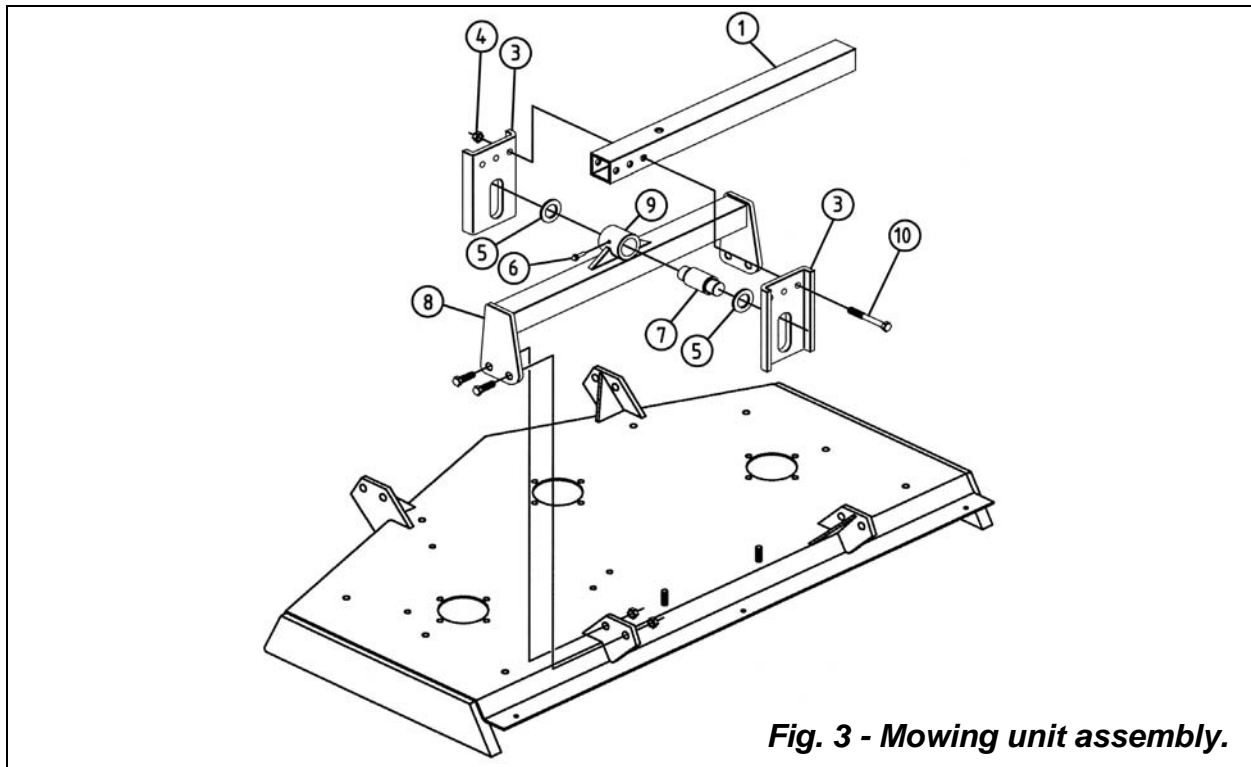

Fig. 3 - Mowing unit assembly.
1. Position the decks complete with hitches (**see #8, fig. 3**) near the telescopic wing arms (**see #1, fig. 3**) which are bolted into the lift arms.
2. Insert the attaching pin (**see #7, fig. 3**) into the tube welded to the hitch (**see #9, fig. 3**). Place the shim washers (**see #5, fig. 3**) on either end of the attaching pin.
3. Place the two formed plates (see #3, fig. 3) on either end of the attaching pin (see #7, fig. 3) with the bend facing outward.
4. With the wing arms down level with the mower decks, position the telescopic wing arms (see #1, fig. 3) between the two formed plates (see #3, fig. 3). Attach them to the bolts (see #10, fig. 3) provided.
5. Tighten the nuts (see #4, fig. 3) and bolts (see #10, fig. 3). Ensure after tightening that the formed plates (see #3, fig. 3) move freely up and down over the attaching pin (see #7, fig. 3).
6. Using the grease fitting on the hitch (see #6, fig. 3), grease the attaching pin and formed plate.